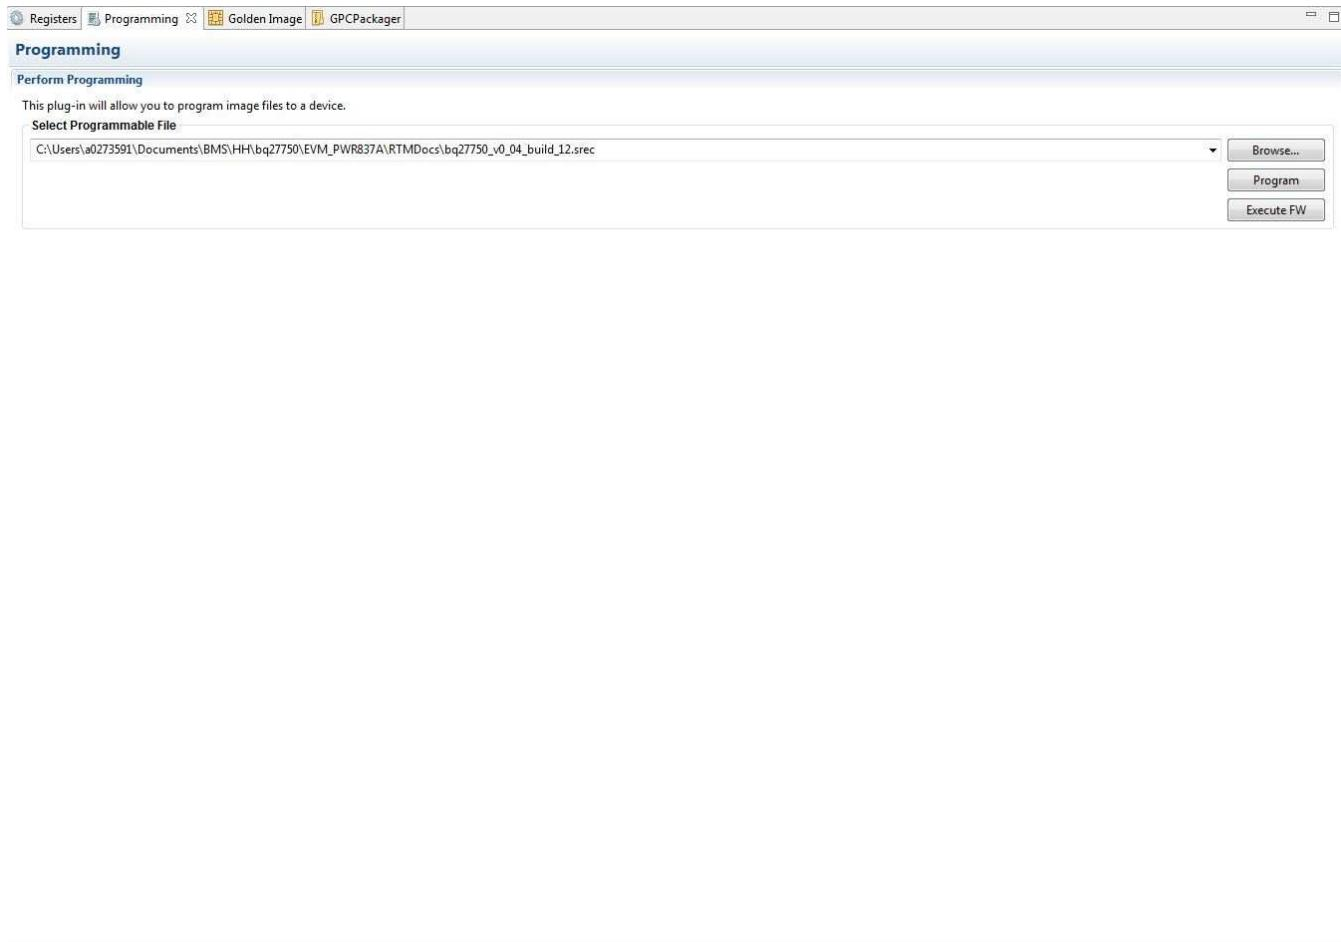

Figure 8. Programming Screen
- Click the Execute FW to return the device to NORMAL mode after programming has completed, see **Figure 8**.